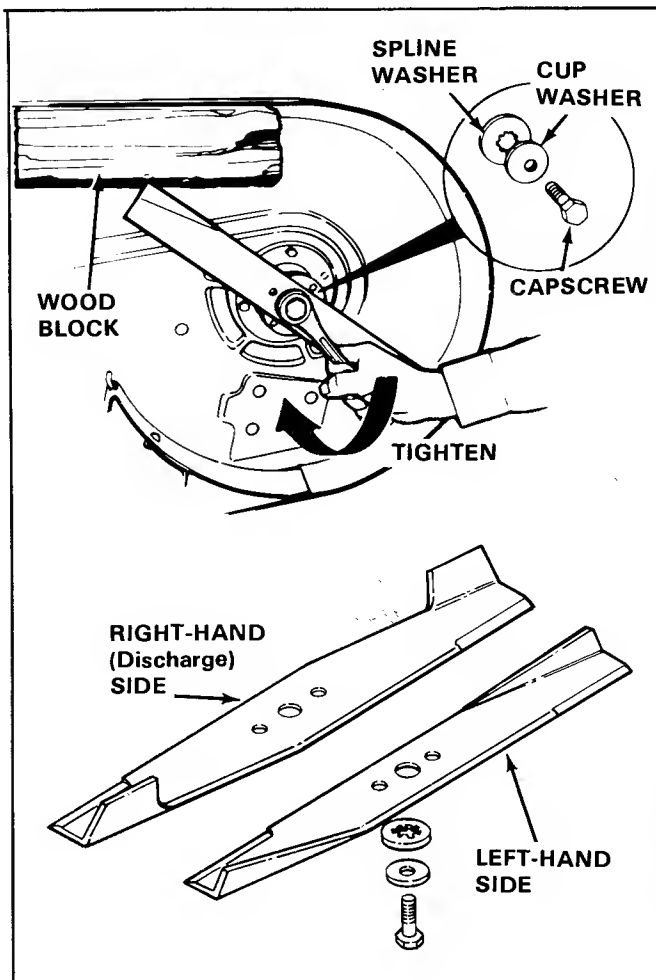

Figure 4.
5. Remove the mower blades and install the new blades with tabs pointing up (toward mower deck). Install the washers and capscrew. Make sure the spline washer engages the shaft splines. Make sure the cup washer is installed concave side up (toward mower deck). Block the blade and torque capscrew to 60 ft. lbs. Note the difference between the two blades (figure 4).